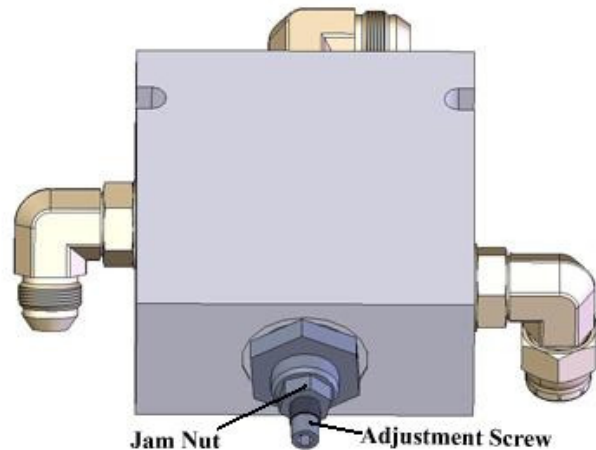

**Figure 22: MCR-C FV with Flow Control**
5. Locate the flow control (Fig. 22) from the generator.